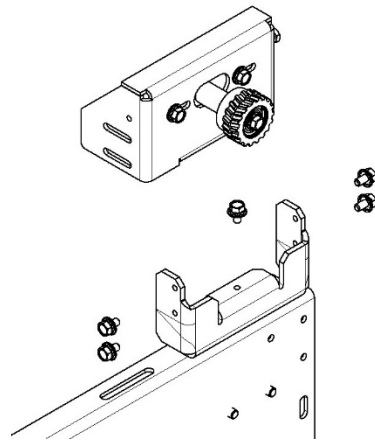
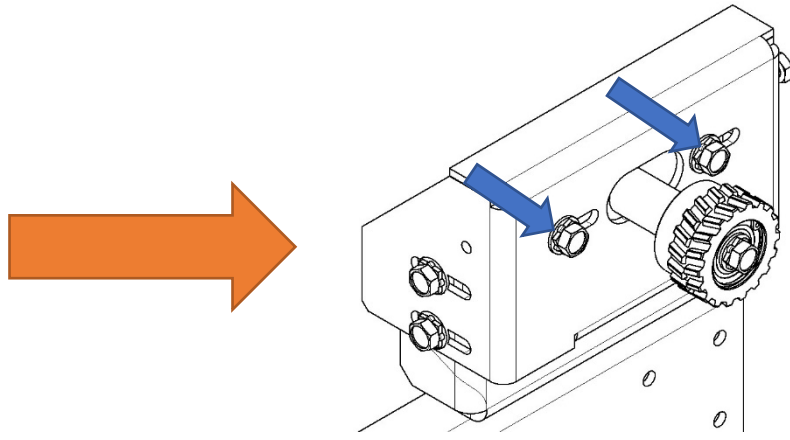

Figure 10 - Unmounted tensioner assembly
Figure 11 – Mounted tensioner assembly
Once the tensioner support bracket is secured to the hanger, place the tensioner assembly on top and secure the assembly using the (5) ¼-20 screws. As shown in Figure 10, hand tighten the two screws on each side and one screw on the back of the assembly. Figure 11 shows the final mounting position for the tensioner assembly, make sure to also loosen the two front screws on the tensioner assembly shown on Figure 11 as you will need to mount the belt, adjust your clutch and increase the tension on the belt.